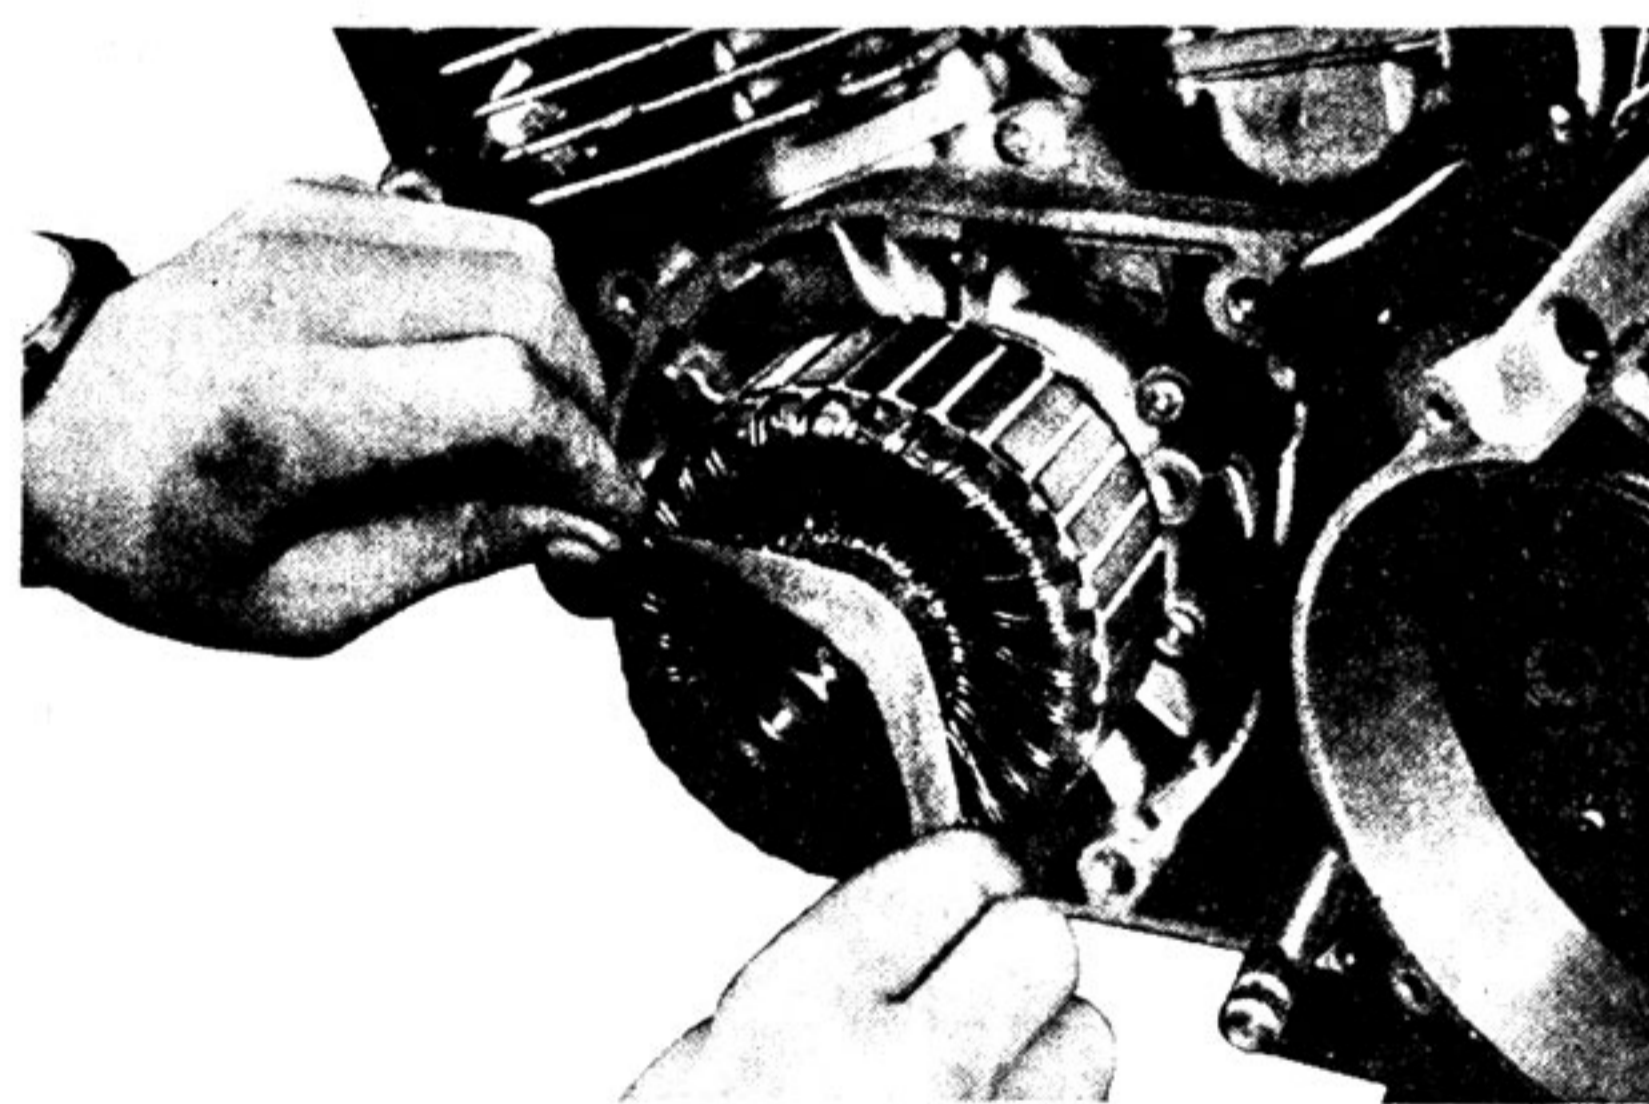

Fig. 6-5-5
(1) Thoroughly clean the commutator of oil and dirt. If the commutator is rough or dulled with brush dust, polish it with fine grain sandpaper (#400 ~ 600) as shown in Fig. 6-5-5, by rotating the armature in order to polish its surface evenly.